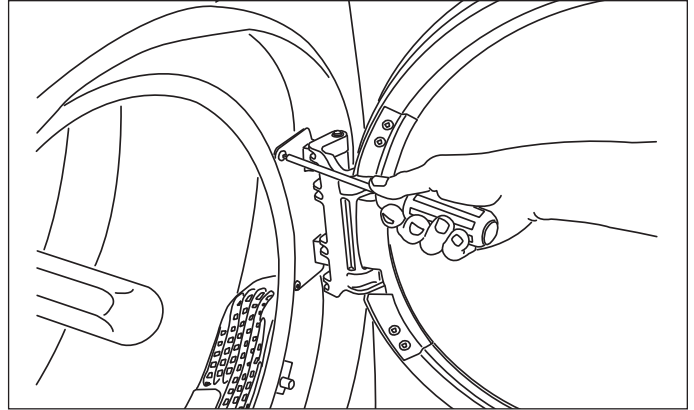

Figure 4-11.
2. Using a #2 square bit screwdriver, with the hinge in open position, extract two short, coarse thread, panhead screws from hinge plate. (See Figure 4-11)